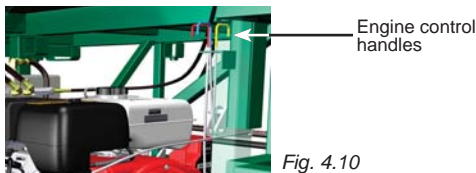

Fig. 4.10
- 2- If the engine is cold, pull out the choke handle to the closed position (blue control cable, fig. 4.10). If the engine is warm, leave the choke handle in the open position. In a bearing configuration, make sure that the bearing bridge is level.
- 3- Pull out the throttle handle about halfway (yellow control cable, fig. 4.10).
- 4- Pull out the ignition handle (red control cable, fig. 4.10) and release it as soon as the engine is running (hold for a maximum of 10 seconds). If the engine does not start, wait another 10 seconds before trying again.